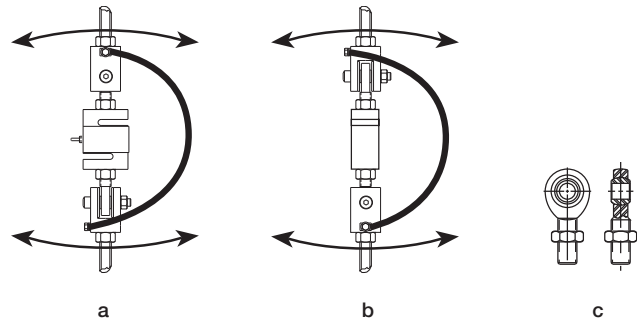

Figure 17-2.
Figure 17-2 illustrates the use of the ITCM weigh module. This mounting arrangement prevents most of the potential problems caused by extraneous forces acting on S-beam load cells.
1. The ITCM consists of a high-precision rod end ball joint which is screwed into each end of the S-beam. The rod end ball joint has a "ball" which is free to rotate in a TFE bearing; see Figure 17-2(c). A clevis is attached to the rod end ball joint using a shoulder screw.